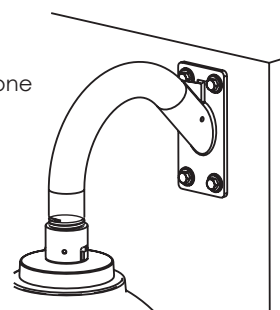

Figure 5
- 6 Screw the housing coupling onto the wall mount's 1 1/2" pipe thread (Figure 5). Make sure all attachments are secure.